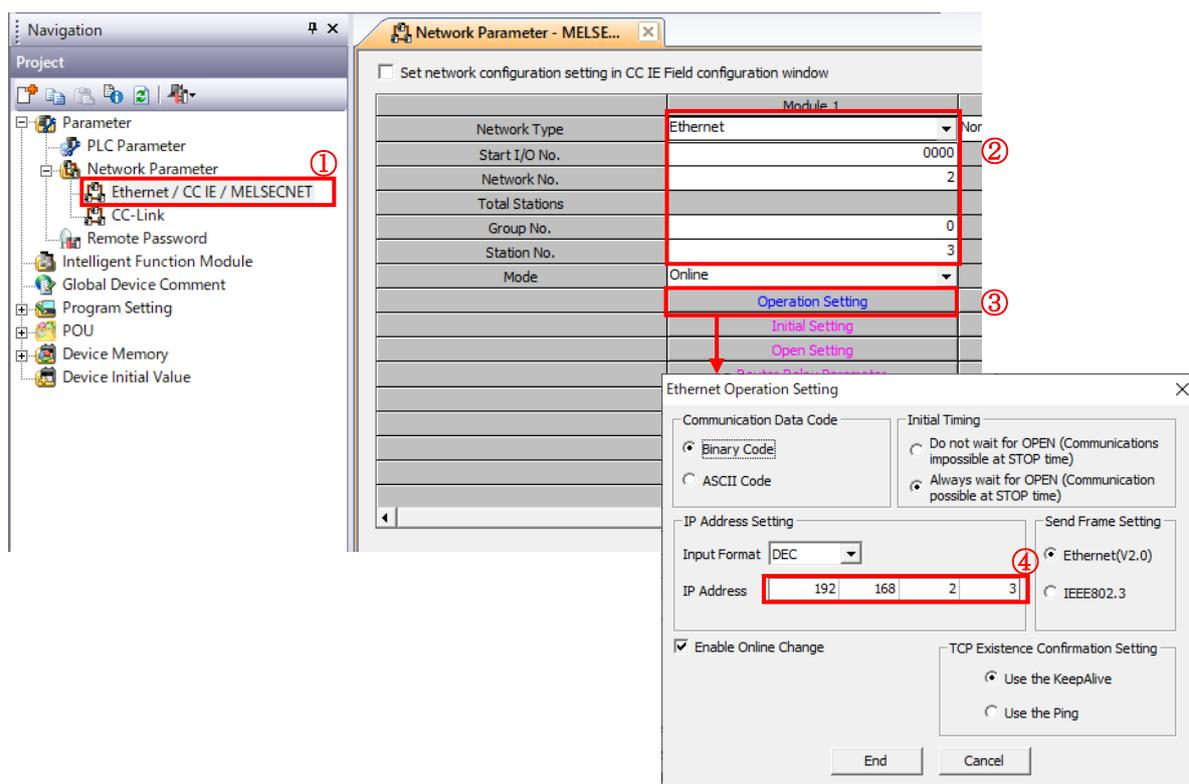

Figure 3-6 Extension Ethernet unit settings (Child PLCs)
- ① to ④ in Figure 3-6 show the setting steps of Expansion Ethernet Unit 1.
- ① From the navigation tree menu, click Ethernet/CC IE/MELSECNET.
- ② Select "Network type: Ethernet" in Unit 1 settings, and enter the network number and station number.
- ③ Opens the Operation Setting.
- ④ Enter the IP address.